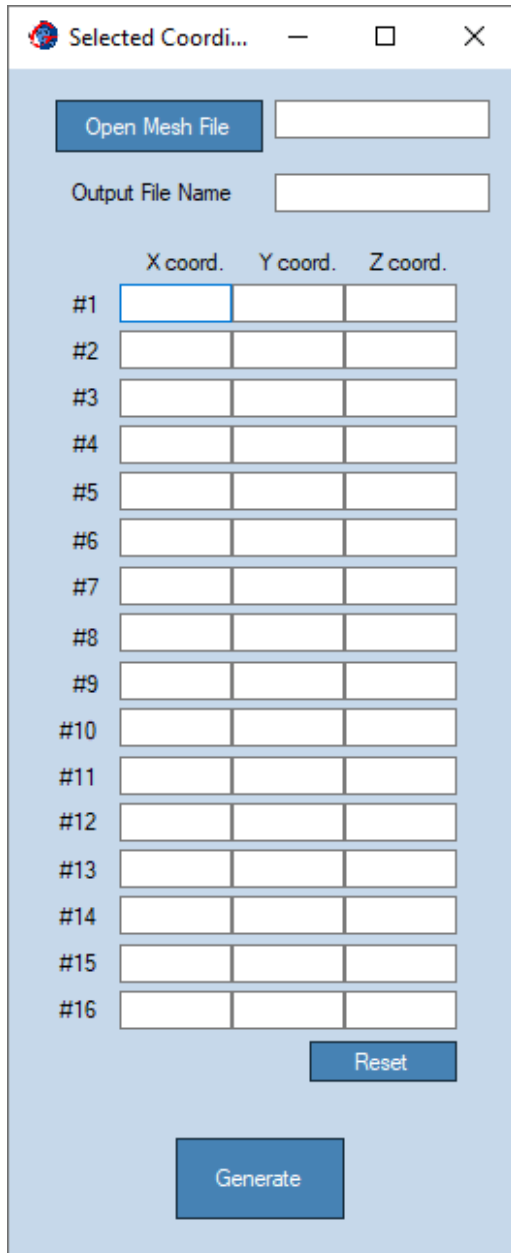

Figure 19: File Menu – Selected Coordinates dialog window.
- **Selected Coordinates:** This option shows the dialog window of Figure 19, for creating a file with selected XYZ coordinates. Coordinates are selected using the render area (Section 6.2).